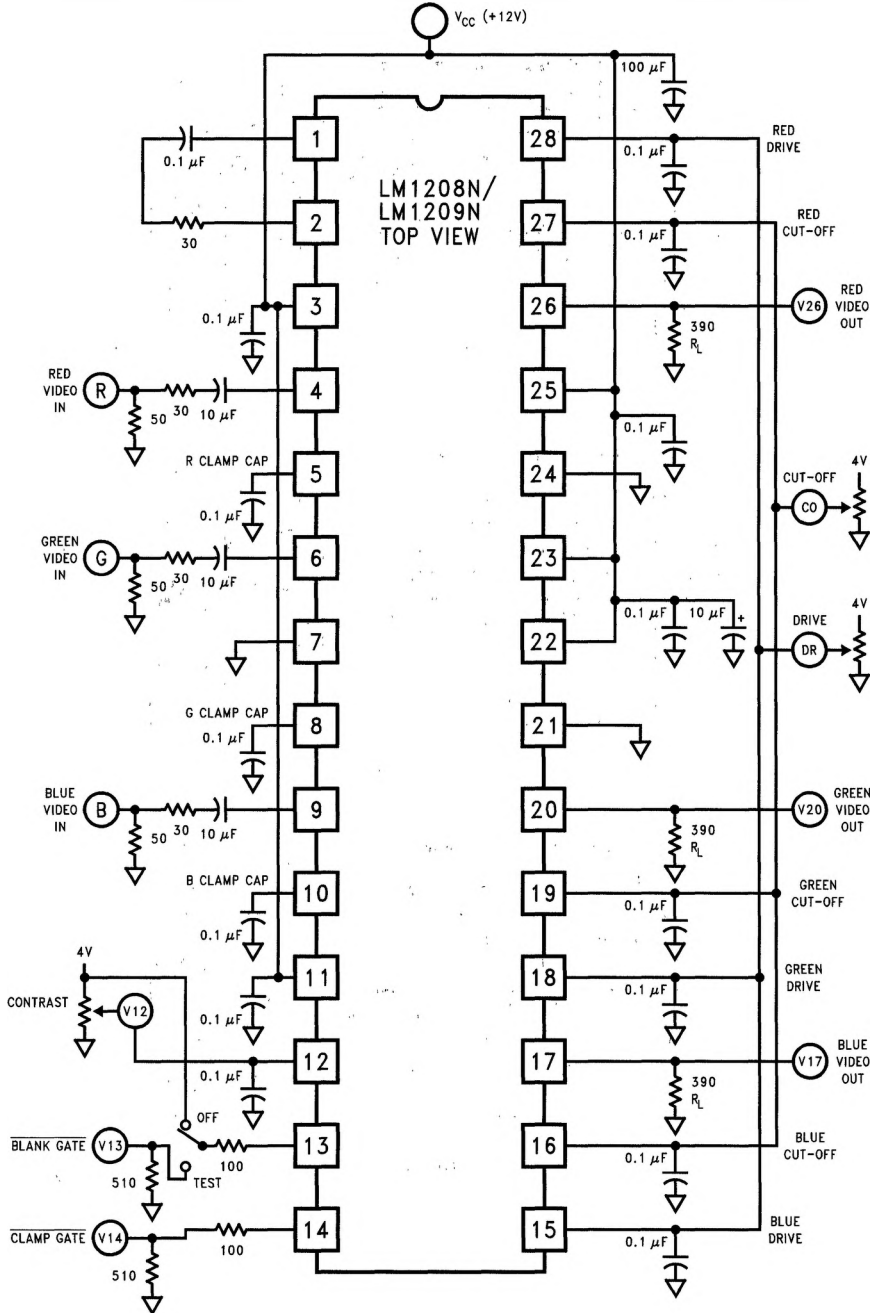

FIGURE 2. LM1208N/LM1209N DC Test Circuit
**DC Electrical Characteristics** See DC Test Circuit (Figure 2),  $T_A = 25^\circ\text{C}$ ;  $V_{CC1} = V_{CC2} = 12\text{V}$ ,  $V_{12} = 4\text{V}$ ;  $V_{14} = 0\text{V}$ ;  $V_{\text{cut-off}} = 1.0\text{V}$ ;  $V_{13} = 4\text{V}$ ;  $V_{\text{drive}} = 4\text{V}$  unless otherwise stated.
**Note 7:** The supply current specified is the quiescent current for  $V_{CC1}$  and  $V_{CC2}$  with  $R_L = \infty$ , see *Figure 2's* test circuit. The supply current for  $V_{CC2}$  (pin 23) also depends on the output load. With video output at 1V DC, the additional current through  $V_{CC2}$  is 8 mA for *Figure 2's* test circuit.